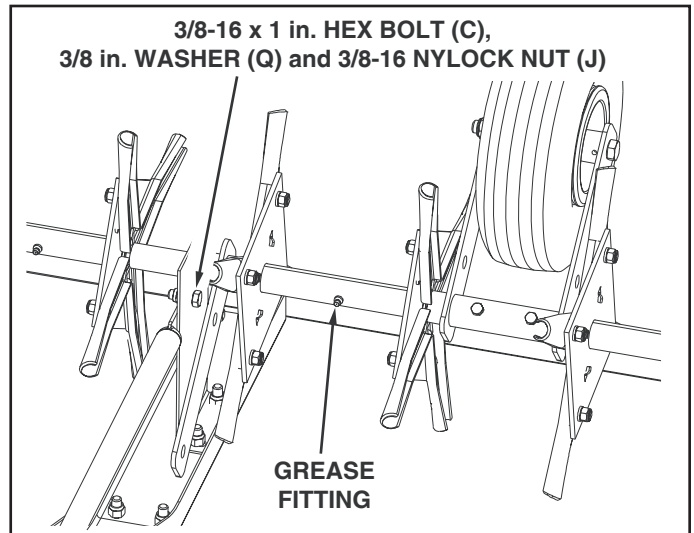

FIGURE 10
- Apply grease to the grease fitting of each spool assembly until grease is squeezed out from each end. See figure 10.
- Loosely fasten the tube brace to the middle bracket with one 3/8-16 x 1 in. hex bolt, one 3/8 in. flat washer and one 3/8-16 nylock hex nut. See figure 10.